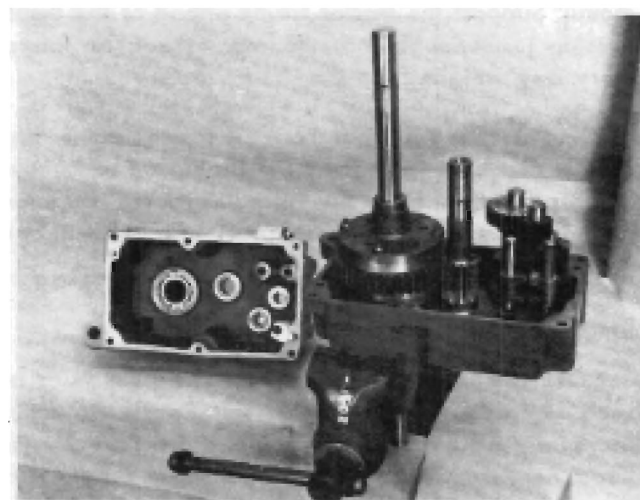

FIGURE 3
8. Remove the left hand case, as shown in Figure 3.